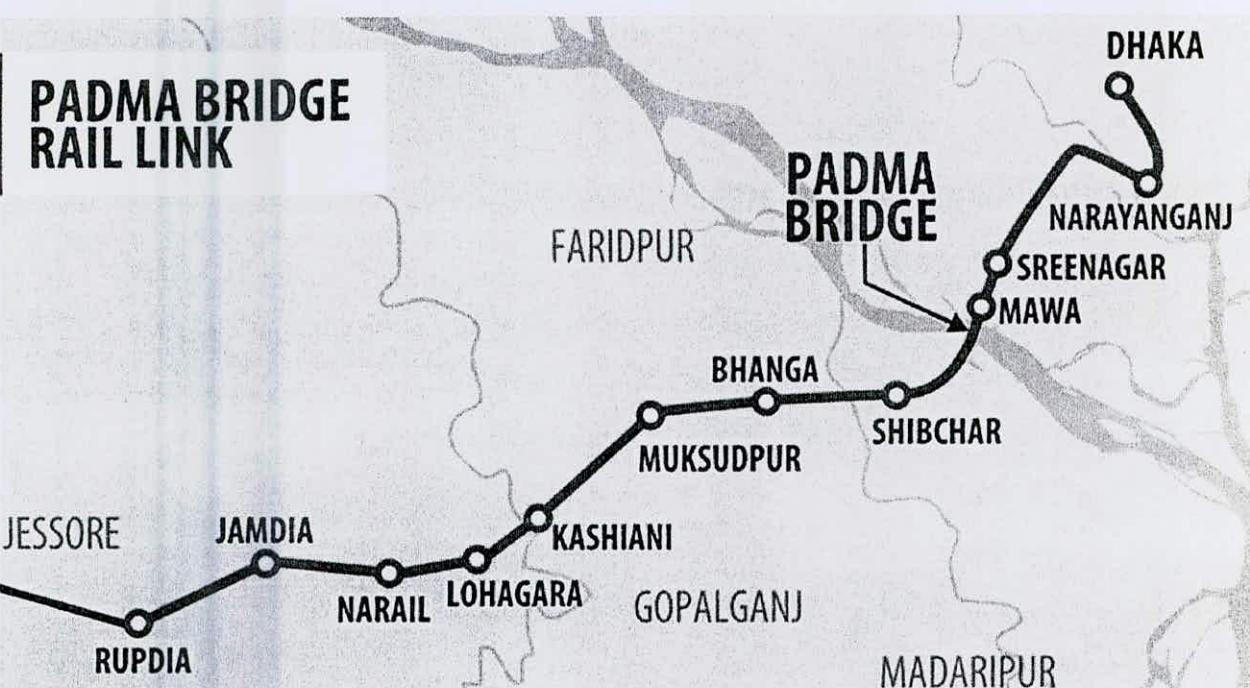

Figure 1: Geographical location of Padma Bridge Rail Link Project (for Question 1)
1. Padma Bridge Rail Link Project (BPRLP) is jointly funded by Government of the Republic of China and the Government of Bangladesh. Bangladesh Railway is the Executing Agency of the project. The primary objective of the project is to construct a new railway track of 169 km from Capital City Dhaka to Jashore via Padma Multipurpose Bridge to establish a new Broad Gauge railway connectivity with the southwest part of Bangladesh. **Figure 1** shows the geographical location of Padma Bridge Rail Link Project. Upon implementation, the project may improve national connectivity, facilitate national, regional, and international freight transport, reduce travel time, provide a higher quality of transportation service to passenger, contribute a GDP growth of approximate 1%, and contribute to regional socio-economic development and thus minimizing regional disparity. The phase-I of the project requires a total 358.41 ha of land (about 82.35 km long strip with approximately 40 m width). This includes 120.54 ha of public land, and 237.87 ha are private land to be acquired. About eight thousand persons could be directly affected by the land-acquisition related impacts of the project within the right of way.
- (a) What are the relevant social and economic impacts you may need to consider for assessing the socio-economic impacts of Padma Bridge Rail Link Project, explicitly, associated with land acquisition, relocation, and resettlement? List at least ten factors. (15)
- (b) How do you collect relevant socio-economic data to assess the impacts related to land acquisition, relocation and resettlement of this project? (10)
- (c) Comment on the role of public consultation and participation for an effective implementation of land acquisition and resettlement action plans of this project. (10)
2. (a) Propose a set of feasible mitigation measures to minimize the land acquisition, relocation and resettlement related negative impacts of Padma Bridge Rail Link Project described in Question 1. (20)
- (b) Propose a framework for implementing your proposed mitigation measures that you identified in 2(a). Your proposed framework should consider institutional aspect, monitoring requirement, and grievance redress mechanism. (15)